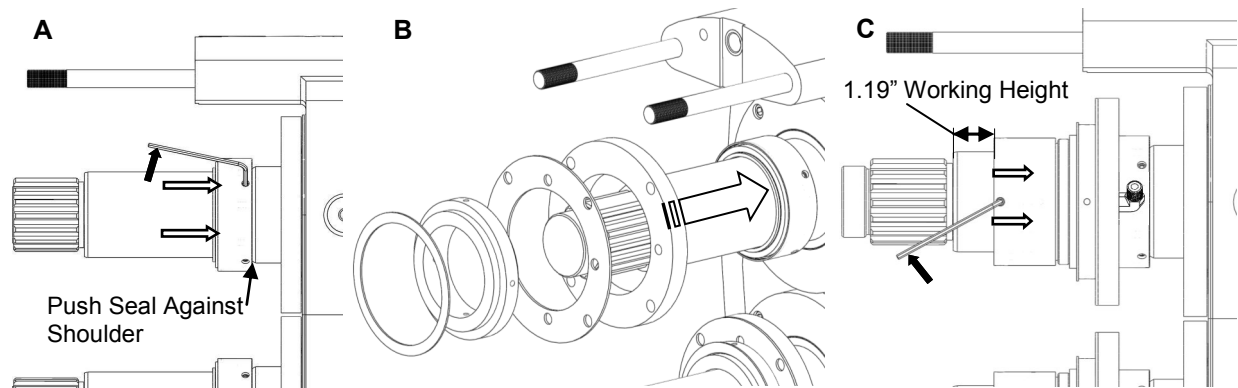

Figure 41: ZP1 320 Double Mechanical Seal Assembly
*Assembly:* Clean both shaft ends and the body before assembling. Slide the back rotating seal assemblies onto the shafts with the seal face towards the splines until it seats against the shaft shoulder. With the seal pushed against the shoulder, lock it in place by tightening the set screws (Figure 41, A). In this order, slide the seal glands, outer gaskets, stationary seals, and inner gaskets onto the shafts (Figure 41,B). Slide the front rotating seal onto the shaft with the seal face towards the stationary seal and lock it in place at the desired working height (1.19”) by tightening the set screws (Figure 41, C). Make sure all seal faces are clean. See Pump Assembly on page 31 to continue.